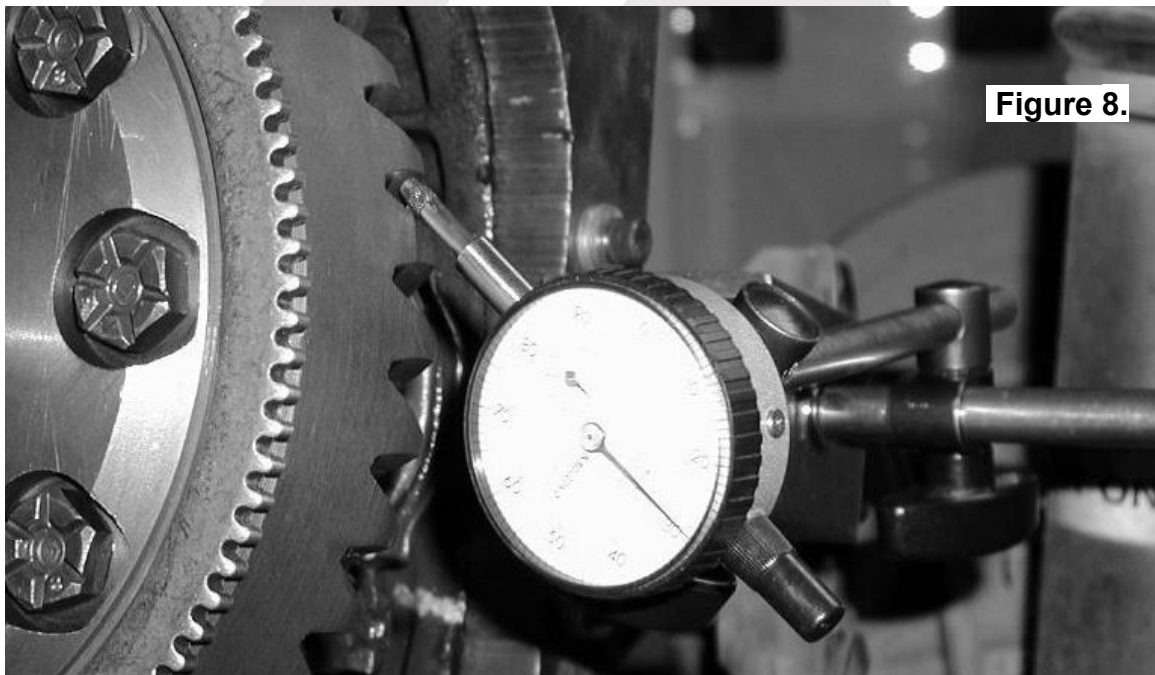

Figure 8.
- Set a depth indicator on one of the ring gear teeth as in Figure 8.